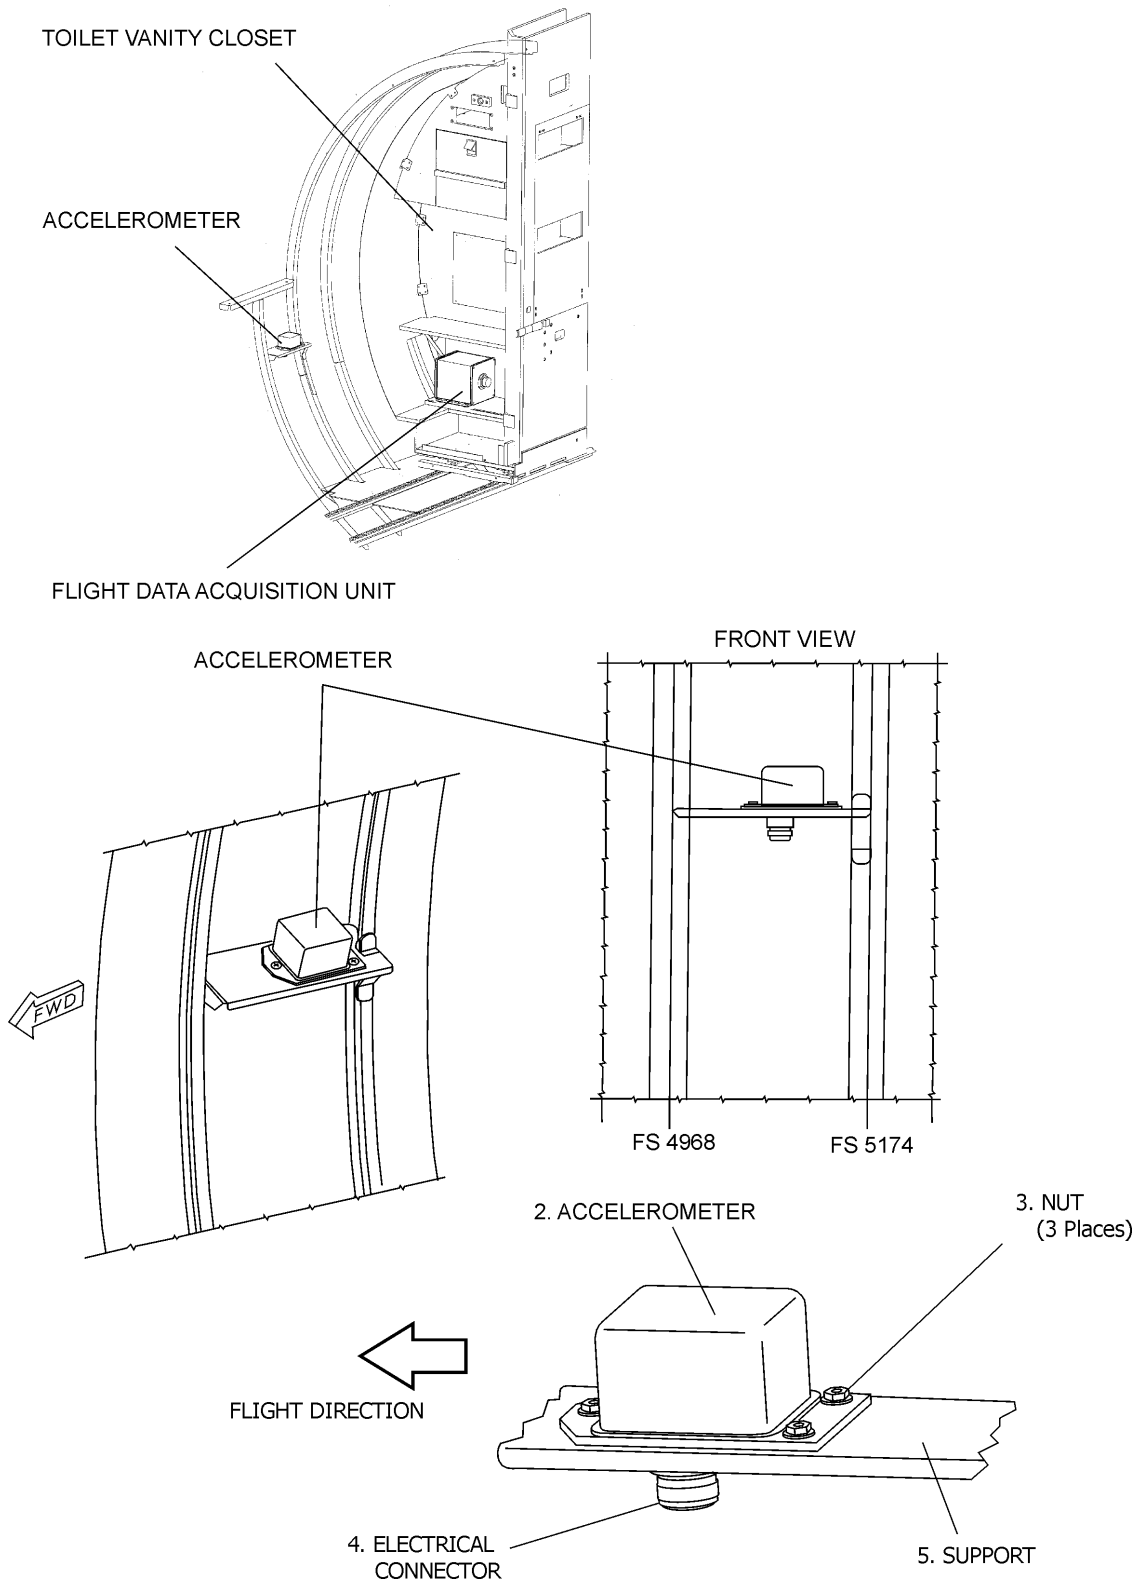

Fig. 204 - CVDR Accelerometer - Removal / Installation
11. CVDR Accelerometer - Removal(Refer to Fig.204)
- (4) Remove the interior panel(s) to gain access to Accelerometer (2).
- (5) Disconnect the Electrical Connector (4).
- (6) Remove the three nut (3) that secure the Accelerometer to the support (5).
- (7) Remove the Accelerometer.
- (8) Cap and stow the electrical connectors and the wiring harness from dust if replacement unit is not to be installed immediately.
12. CVDR Accelerometer - Installation(Refer to Fig.204)